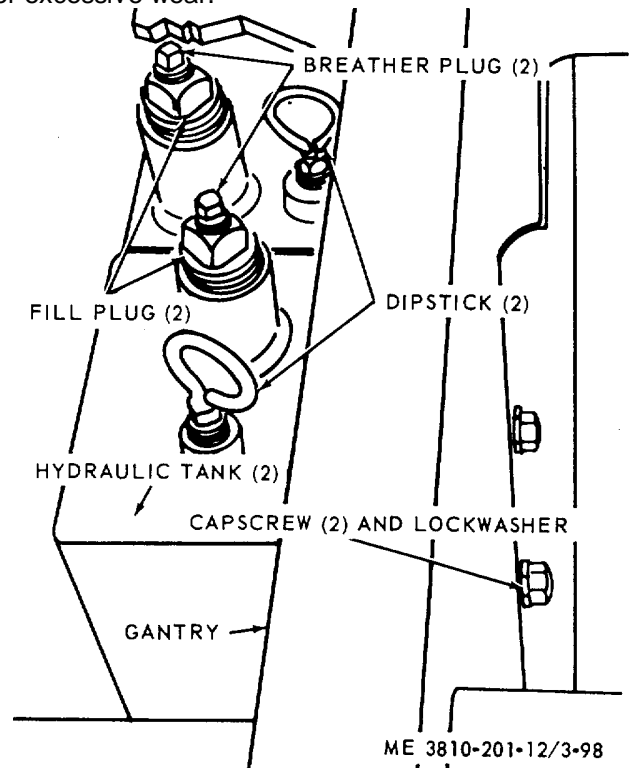

Figure 3-98. Hydraulic tank, removal and installation.
(1) Close shutoff cocks in two supply lines beneath tank, tag and disconnect supply lines, then plug lines to prevent contamination of hydraulic system.
(2) Open tank by removing breather or filler plugs, position suitable container to receive fluid, then open shutoff cocks and drain hydraulic fluid from tank.
(3) Refer to figure 3-98 and remove hydraulic tank.